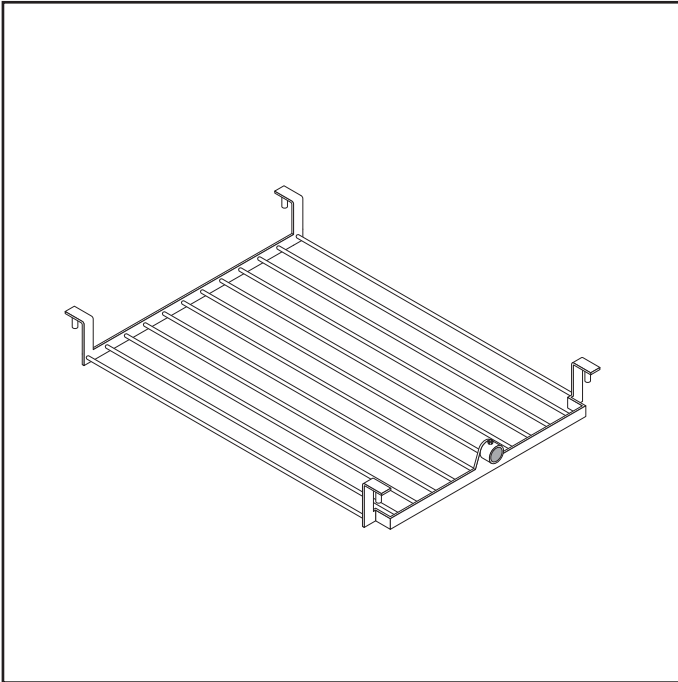

FIG.21
- 4) Protection grill (FIG.21).
To use the ready-mixed product kit the vibrating sieve must be replaced with the protection grill (FIG.21).